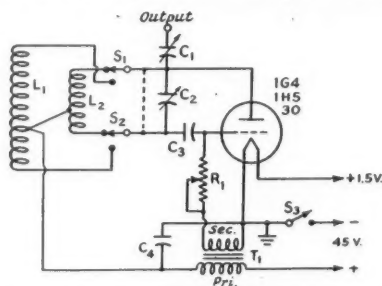

Fig. 3—A battery-powered signal generator for 450 and 1500 kc.
Fig. 3—Development of the "space line" from a parallel-conductor transmission line. The two-wire line (A) has a characteristic impedance, Z_0 , depending on size and spacing of conductors and properties of intervening dielectric. For maximum power transfer from source to line, Z_1 and Z_0 must be matched. This is accomplished by a coupling line (matching section).
HERE at our ATC Headquarters, I do the radio servicing work for our Special Service section as well as the majority of the work on the fellows' personal radio sets. I needed a small signal generator and tried out one originally designed by P. W. Winsford, G4DC. After slight modifications the circuit now appears as shown in Fig. 3. The location of the taps on the coils